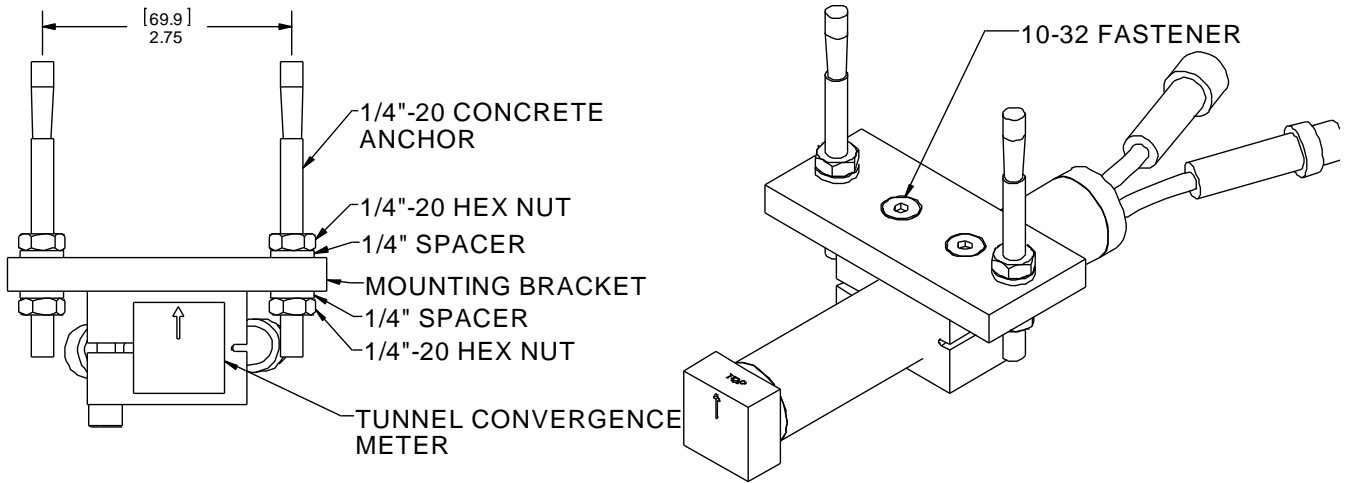

Figure 2: Tunnel Convergence Meter installation detail
9. Orientate the Tunnel Convergence Meter so that the 'Arrow' is always pointed up (see figure 2)